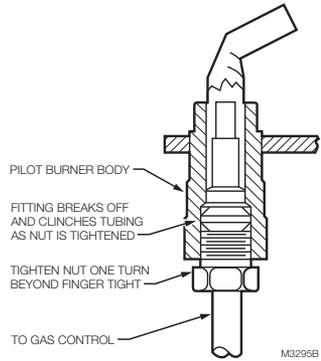

Fig. 3. Always use new compression fitting.
**NOTE:** When replacing a pilot burner or orifice, cut off old compression fitting and replace with new compression fitting provided with new pilot burner. Never use old compression fitting as it may not provide a gas-tight seal. See Fig. 3.
**NOTE:** When replacing an orifice, cut off old compression fitting and replace with a new compression fitting. Never use old compression fitting as it may not provide a gastight seal. See Fig. 3.